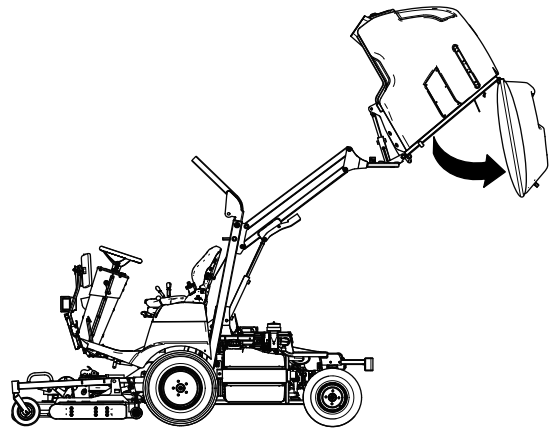

Figure 140
2. Raise the hopper (Figure 140) to the full height position; refer to Raising the Hopper (page 29).
3. Dump the hopper (Figure 140) and leave it in the full dumped position, with the rear door hanging freely; refer to Dumping the Hopper (page 30).